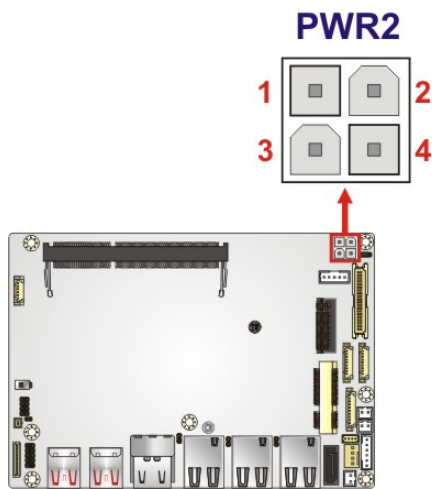

Figure 3-13: +12V DC-IN Power Connector Location
- CN Location:** See **Figure 3-13**